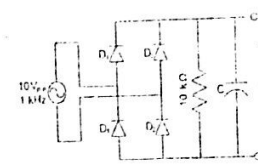

Figure 2.5 : Experimental Circuit 2.
6. Connect the circuit breadboard as shown in figure 2.5 without capacitor.